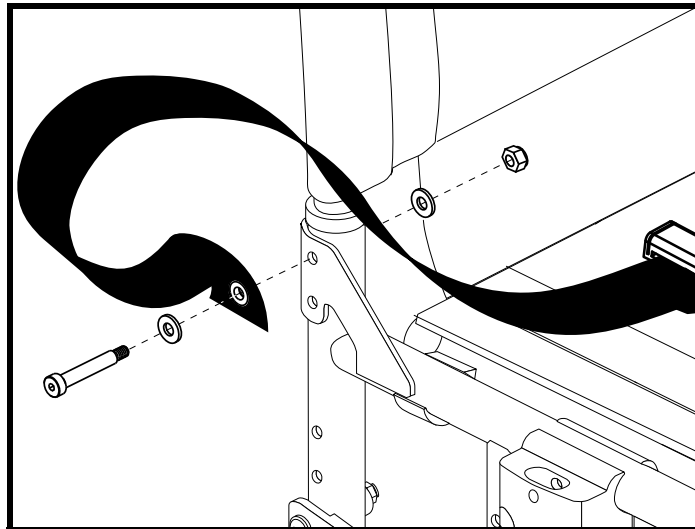

Figure 37. Positioning Belt Installation
Your wheelchair may be equipped with a positioning belt that can be adjusted for operator comfort. See figure 37. The positioning belt is designed to support the operator so that he/she does not slide down or forward in the seat. The positioning belt is not designed for use as a restraining device in a motor vehicle.
1. Remove and discard the screws on both the left and right sides. See figure 37.
2. Insert the hardware through the positioning belt and then through each side of the wheelchair seat. See figure 37.